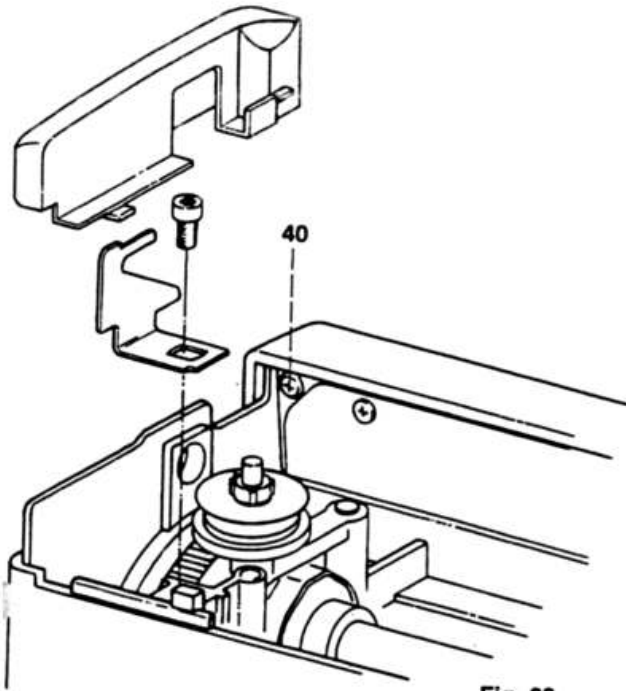

Fig. 30
- Unscrew Torx screw and remove the angle (fig. 30).
- Unscrew the five screws 40 (fig. 30 and 30b).